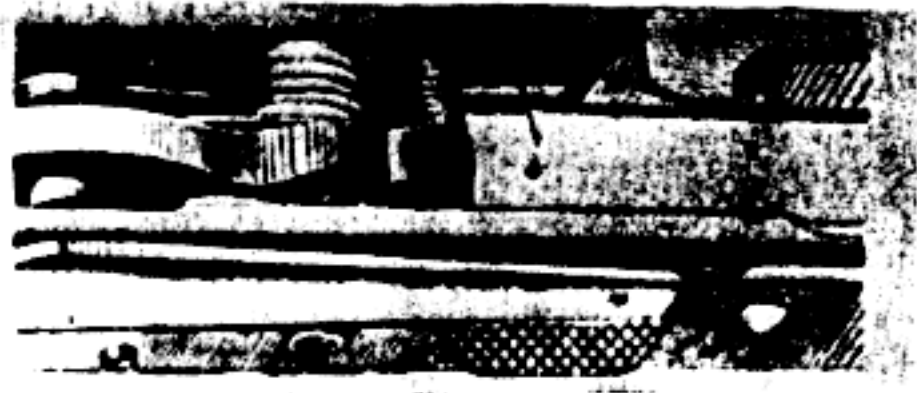

Figure 41. Fastening of long end of full automatic sear spring in rifle with stamped receiver.
The short end of the full automatic sear spring is held in hole (3) and the long end (4) is held in a notch between the left wall of the receiver and the rear face of the receiver insert (fig. 41).